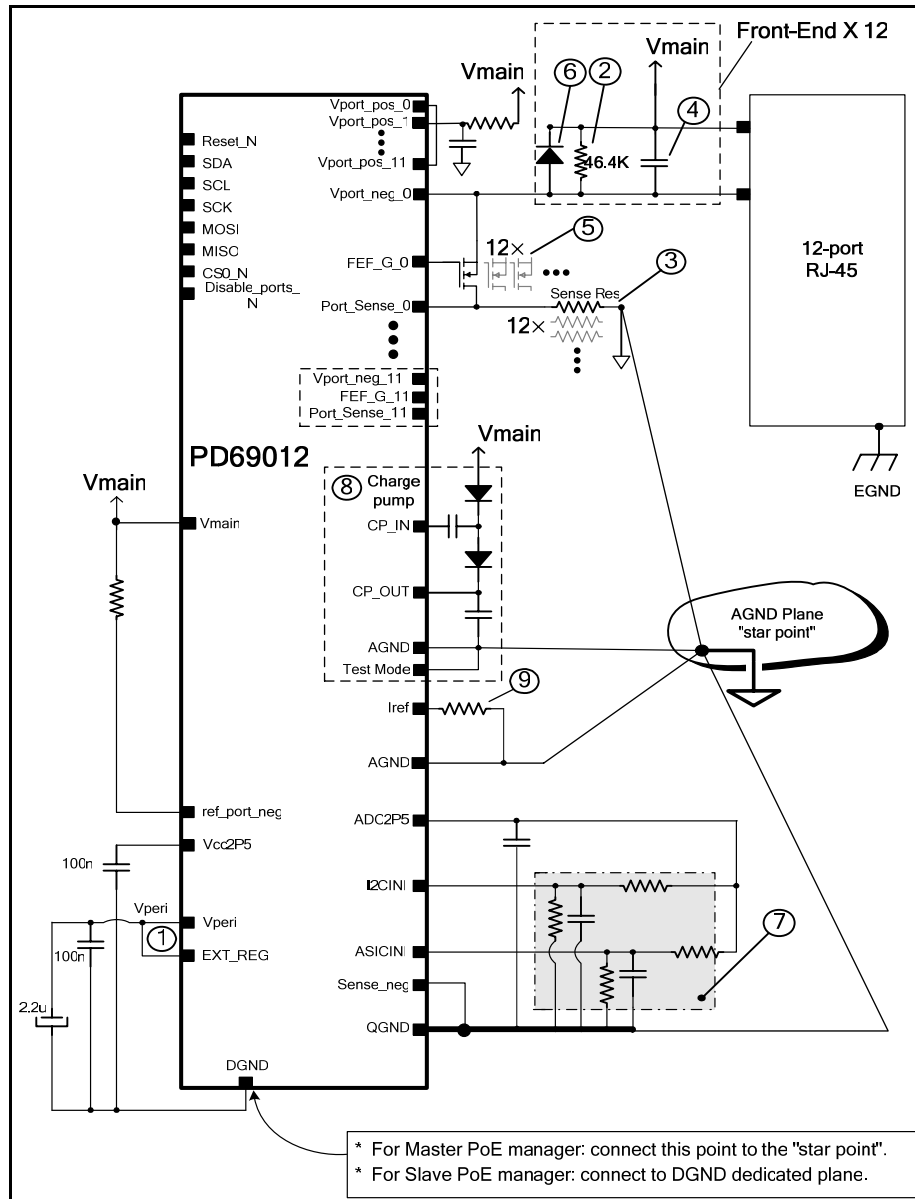

Figure 7: Component Identification for PD69012 Circuitry
Figure 7 describes the various circuits and elements surrounding the PD69012 PoE Manager in a block diagram. This block diagram includes the following peripheral elements, identified by numbers:
- The 100nF bypass capacitor (item-1 in Figure 7) from Vperi to DGND must be placed as close as possible to the respective pins. Its conductors to Vperi and pin 40 should be as short as possible
- The PoE Manager includes a Charge Pump circuitry. Locate related components (item 8 in Figure 7), close to the Manager, with short traces to pins 13, 14 and route Charge Pump's ground circuitry directly to the analog ground (pin 21)
- The IREF resistor (pin 50) used as a current reference (item 9 in Figure 7) is directly connected to the AGND (pin 62)
- Several analog signals are sensitive to environmental and system noise. The external components associated with these signals are to be connected to the QGND (pin 54- see Figure 7). These signals are:
- I2CINI (pin 53) setting the I²C address of the particular PoE Manager (item 7 in Figure 7)
- ASICINI (pin 51) setting the mode of operation of the particular PoE Manager (item 7 in Figure 7)